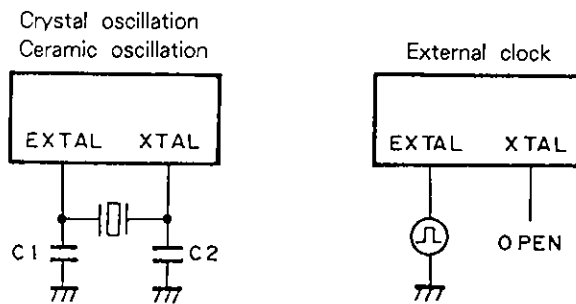

Fig. 2 Clock applying condition
**Note)** When adjusting the frequency accurately, there may be cases in which they may differ from Fig. 2.